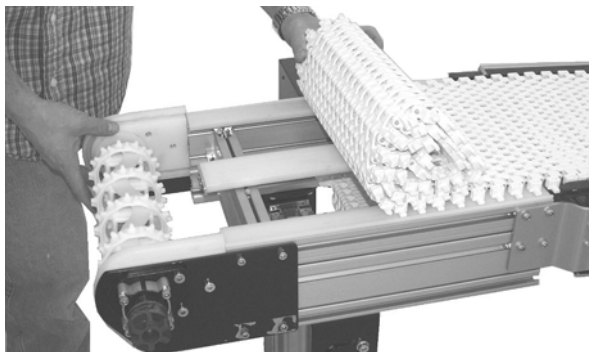

Figure 13
1. Position the belt on the conveyor frame (Figure 13).